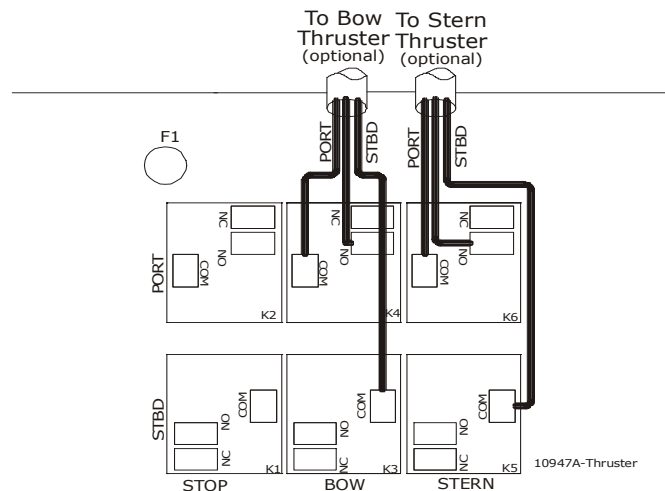

Figure 25: Junction Box Thruster Cable Wiring Diagram
- E) Make cable connections at the Relay Junction Box as indicated in Figure 25:.